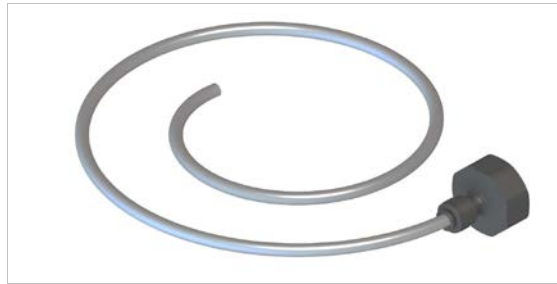

Figure 8.2: Flushing set for connecting to the water tap (3/4")
- Place the flushing set (Figure 8.2) and the maintenance hose from the scope of delivery in a position ready for use.
<p>Hot steams / Hot liquids Risk of scalding from steam!</p> <ul style="list-style-type: none"> • Only open the pressure vessel screw cap when the device is depressurised! • Allow the pressure vessel to cool down before opening the pressure vessel screw cap! • Observe the gauge display (Figure 8.2)! The device remains under pressure as long as one segment is illuminated on the value scale on the gauge. • The residual water may be hot! • Wear heat resistant gloves when handling the hose